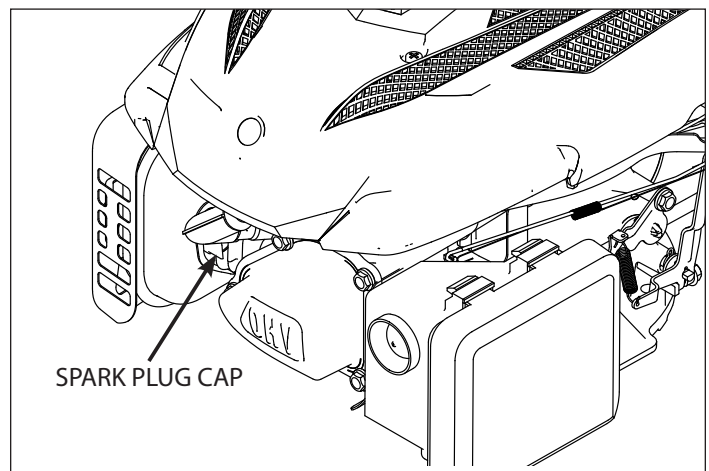

FIGURE 5: Spark plug location
1. Detach spark plug wire and move away from spark plug. If the engine uses a battery, disconnect at negative terminal. **SEE FIGURE 5**
The recommended spark plug is a Torch K7RTC. The spark plug is located to the left of the valve cover. **SEE FIGURE 5**